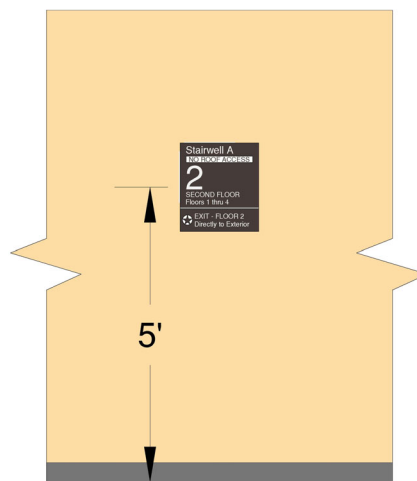

Figure 33.4.2
- 27.9. UMD H5 sign installation shall comply with figure 33.4.2.